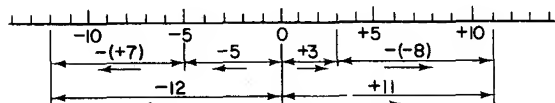

Fig. 1.18
1. To find the value of $-5-(+7)$. From Fig. 1.18 it will be seen that $-(+7)$ is the same as -7 and hence,
2. To find the value of $+3-(-8)$. From Fig. 1.18 it will be seen that $-(-8)$ is the same as $+8$ and hence,